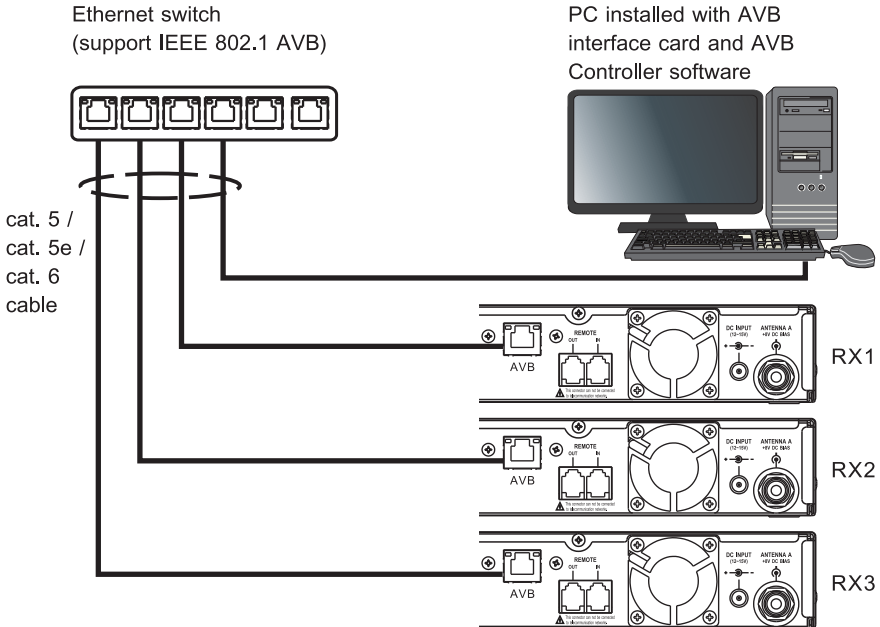

Fig. 23
1. AVB Network. Fig. 23:
- (A) Connect AVB RJ45 port on the device to the Ethernet switch via cat. 5 / cat. 5e or cat. 6 cable to construct AVB Network.
- (B) This Ethernet switch should be able to support IEEE 802.1 AVB.